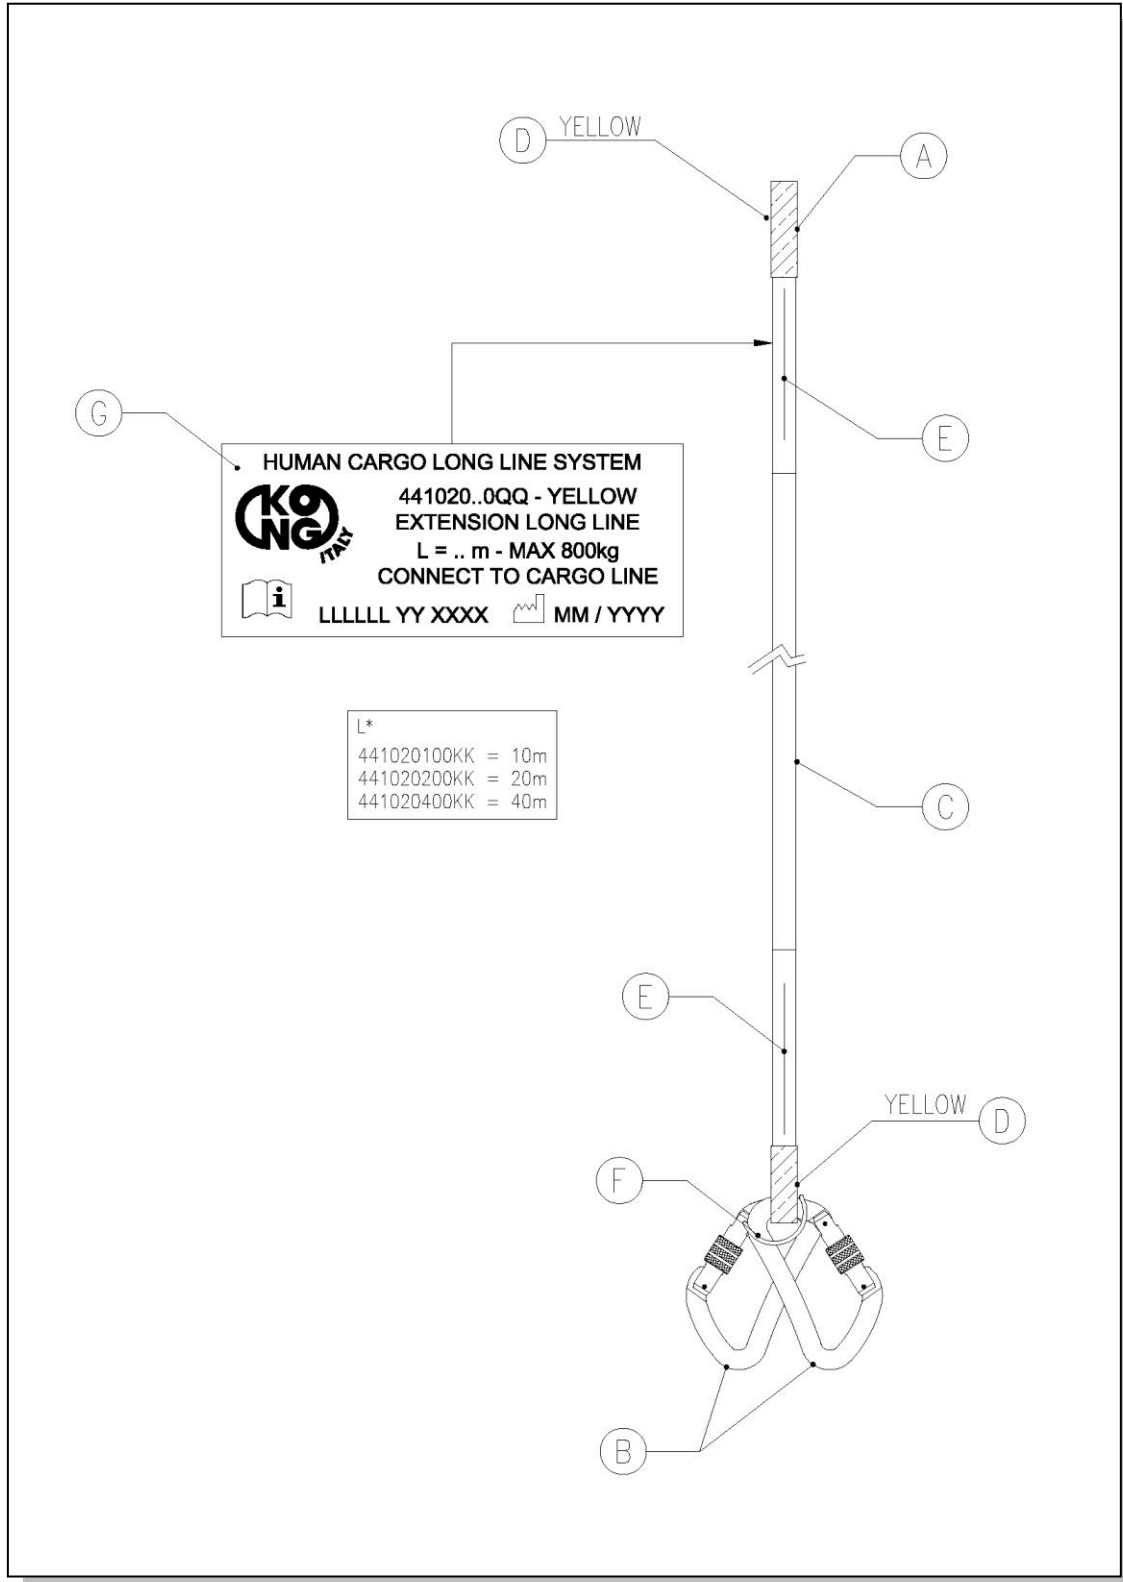

Fig.3 – Extension Long Line
The Extension Long Line (Fig. 3) consists of a rope (C) with the loop terminals to connect respectively:
- to a further Extension Long Line or, alternatively, to the End Termination, through the two carbon steel connectors (B), equipped with screw sleeve and positioned with the opposing levers,
Terminology of parts (Fig. 3): (A) "Extension long line" junction stitched loop, (B) Heavy Duty connectors with screw sleeve, (C) Stitched rope, (D) Protection rope (yellow color), (E) Stitching, (F) Fast, (G) "Extension long line" label